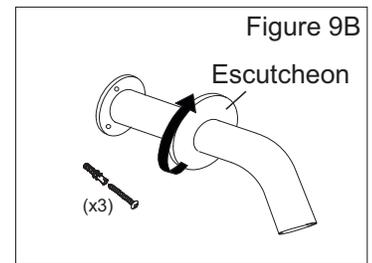

Figure 9B
4. Place spout against wall and fasten securely with the provided screws as pictured in Figure 9B.
5. Fasten the escutcheon to the bracket until hand-tight as pictured in Figure 9B.